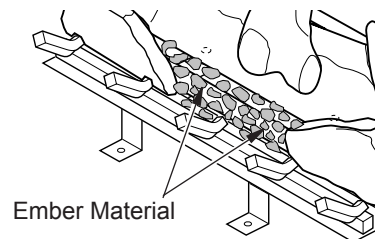

Figure 49 - Placing Ember Material on Burner
- Pull ember material apart into pieces no larger than a dime. Place these pieces loosely and sparingly directly onto the exposed section of the front burner and along the space between the burner and grate prongs (see Figure 49). This will create the glowing ember appearance as the flame touches the ember material. Do not block air slots by using too much ember material in one area. It is not necessary to use all of the ember material provided.